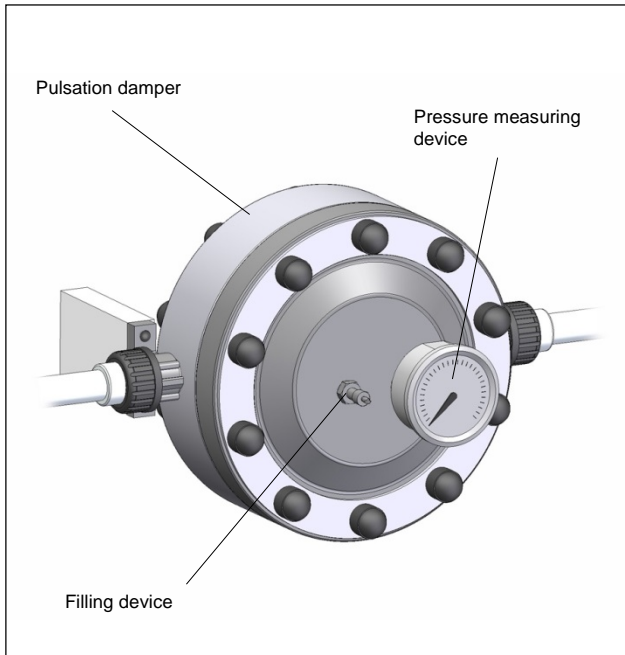

Fig. 11 Pressure measuring- and filling device
- Filling device or pressure measuring- and filling device must be easy to overview and operate (see Fig. 11).